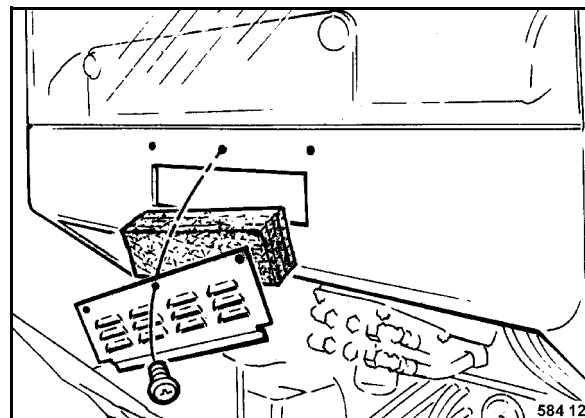

Fig. 194
- Unscrew fastening screws for the ventilation grid (Fig. 194) and remove the filter.